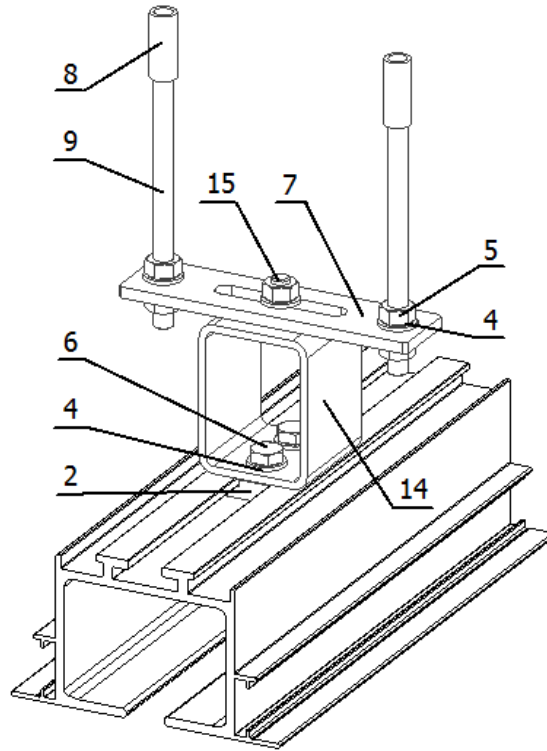

Fig.19. Scheme of track mounting with an intermediate element
- with an intermediate component (Rys.19)